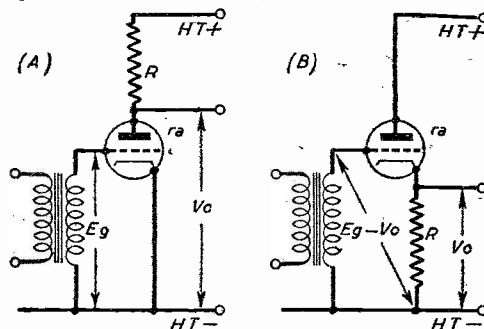

Fig. 1.—A, ordinary amplifying stage; B, cathode follower.
**A**N instructive experiment can be carried out very simply by changing the position of the load resistance  $R$  in an ordinary amplifying stage, Fig. 1 (A), and insert it in the cathode side of the valve as in (B).
Before considering reasons for this state of affairs, let us make one more experiment that demonstrates a very valuable property of the cathode follower, namely, its low internal impedance or *output impedance*. Referring first to Fig. 1 (A). This may represent an ordinary voltage-amplifying stage of high impedance, approximating to the A.C. resistance,  $r_a$ , of the valve. If we took various resistances of say, 10,000 ohms and upwards to represent "loads" connected to the output terminals of this stage, a very marked effect would be observed upon the stage gain and available output voltage. The experiment shows that if such a high impedance stage were coupled directly to a succeeding stage whose *grid-cathode* impedance is likely to become low at high frequencies, or due to grid-current, the output voltage would suffer accordingly.
It can also be shown that the grid-cathode *input impedance* of the cathode follower is high as compared with an ordinary stage, which makes it an ideal "separator" between a high impedance stage and one whose input impedance is likely to be low. A further point concerns *phase-reversal* of the output voltage, which does *not* occur in the cathode follower: During a positive half-cycle of grid signal, the cathode end of R will have a potential change, of positive sign with respect to — H.T. line, whereas in Fig. 1(A), the anode potential falls during the same interval.